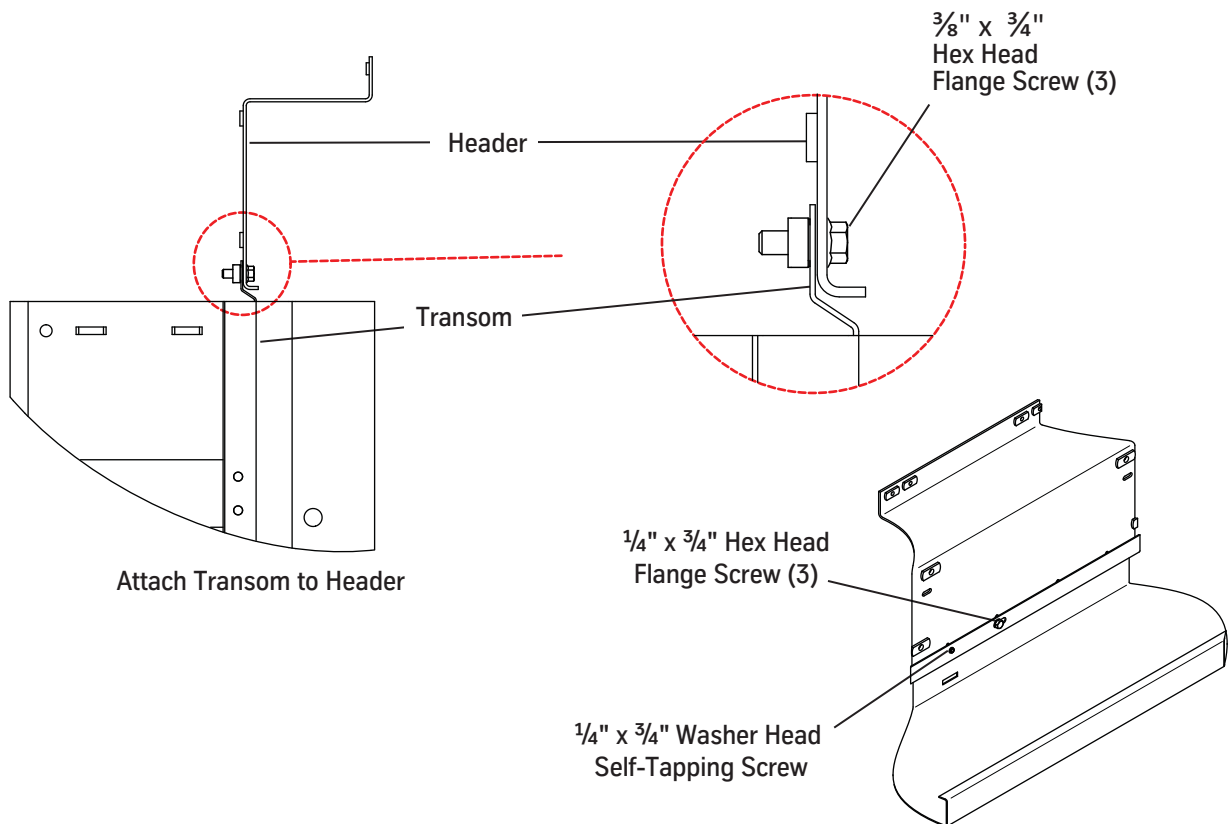

Figure 56 - Attach the Transom to the Header
1. Attach the transom to the header. See Figure 56.